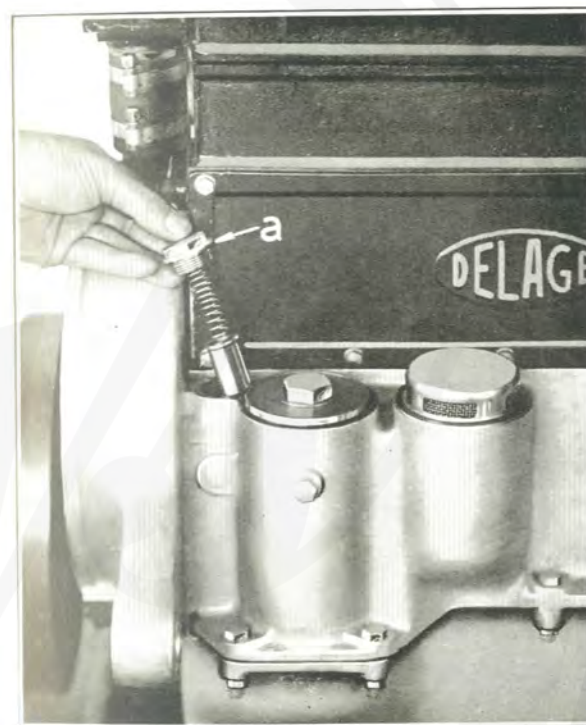

Fig. 6
4. The oil pressure valve can be removed by unscrewing its top plug (a) (fig. 6).